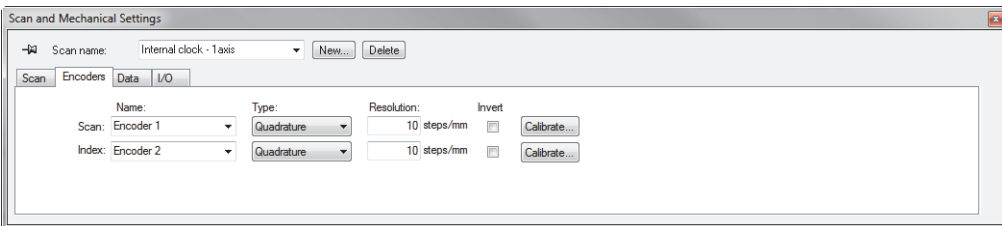

Figure 5-14 Encoders tab of the Scan and Mechanical Settings dialog box for an Encoded - 2 axis scan type
3. On the **Encoders** tab (Figure 5-14 on page 170), proceed as follows: